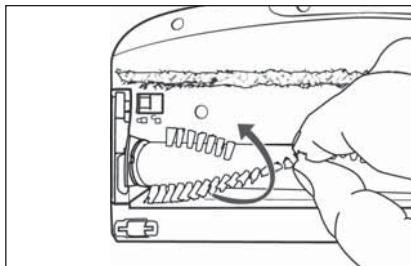

Fig. 30
- 3) Pull the rotary brush ②1 out of the floor brush ②2 by the bristles. Turn the rotary brush ②1 slightly to make it easier to remove (see Fig. 30).